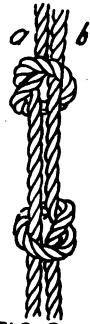

FIG. 80
**Fisherman's Knot.** The fisherman's knot derives its name from the fact that it is commonly used for joining silkworm gut on fishing tackles. In making it the strands are laid together, and an overhand knot (fig. 80) is made with one end  $a$  around the other strand  $b$ . The strands are then turned end for end and another overhand knot made with the other end  $b$  around the first strand  $a$ . See overhand knot (fig. 6).